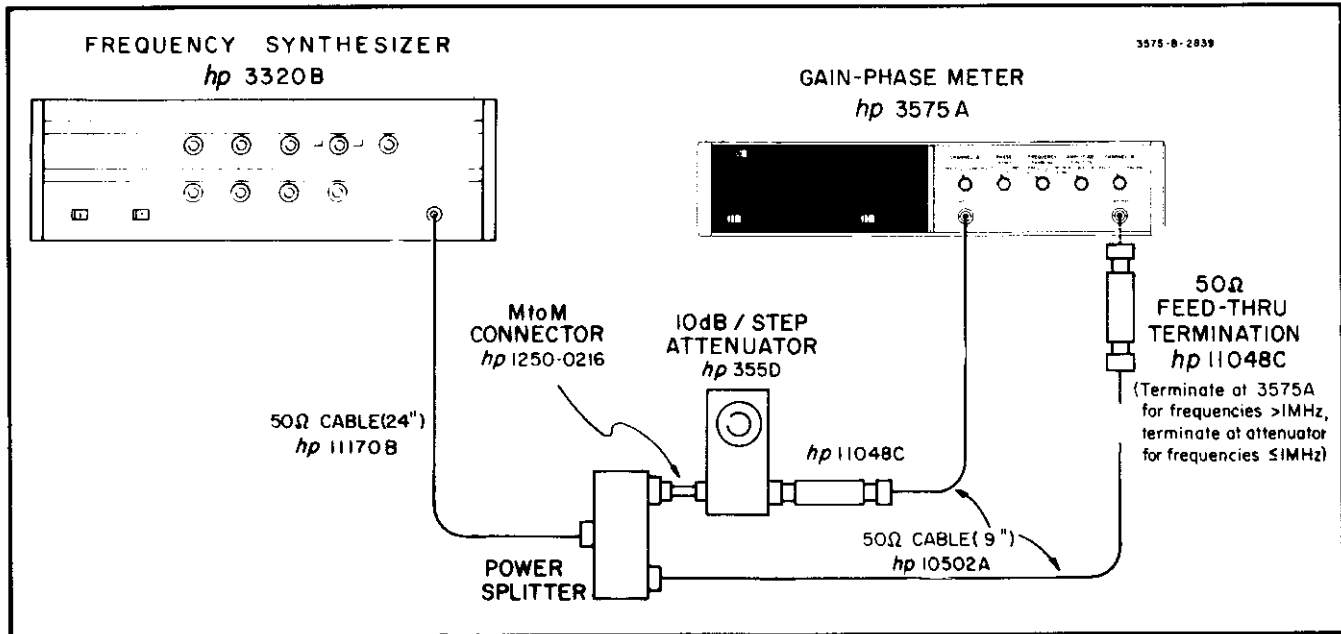

Figure 5-2. Amplitude and Phase Accuracy Checks.
a. Connect test equipment as shown in Figure 5-2. Connect DC Digital Voltmeter to ANALOG OUTPUT 1.
- (1) 9" 50-Ohm Cable with BNC connectors (-hp- 10502A)
a. Connect test equipment as shown in Figure 5-2. Note that the cable lengths are critical and must be as specified in Figure 5-2.
n. Again reverse the Channel A input connection so the termination is at the output of the Power Splitter as shown in Figure 5-2. Connect the terminated output from the Power Splitter to Channel B and the terminated output from the Variable Attenuator to Channel A.